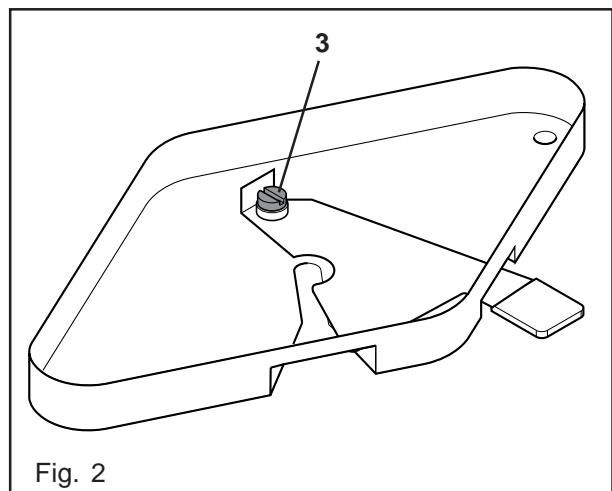

Fig. 2
- When replacing, the screw (3) has to be fastened by means of Loctite. (Fig. 2)